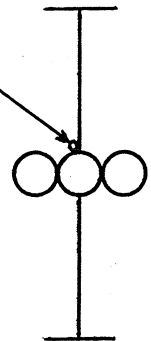

Fig. 10
- Glue launch lug at one of the main body tube-stabilizer joints. See. Fig. 10.